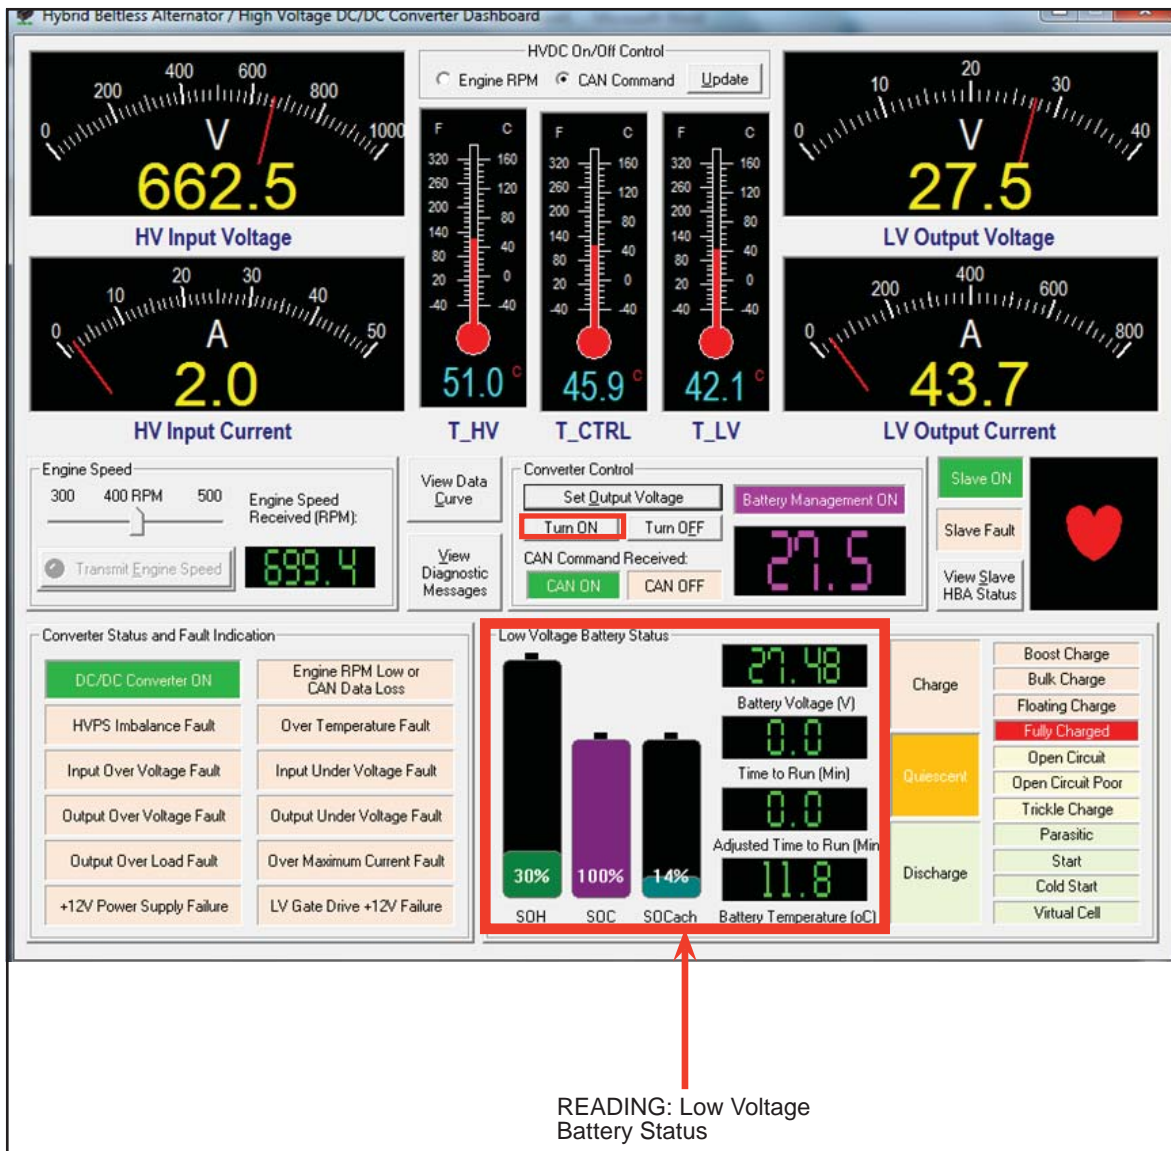

Figure 5 - Typical View of HBA Dashboard with Battery Management 'ON'
- 1.8. Check for proper reading data of "Low voltage Battery Status" (see Figure 5).